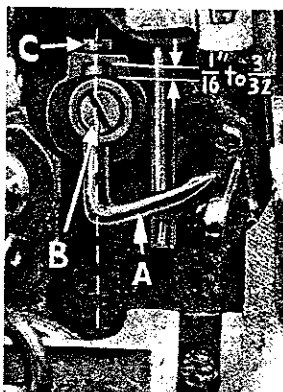

Fig. 8
Insert upper looper (A, Fig. 8) in its holder. Screw (B), holds upper looper in its holder, and permits it to be pushed in or out of turned around its shank. Insert upper looper holder into upper looper shaft, if it is not already in place. Screw (C), on clamp holds the upper looper holder in the shaft. Locate upper looper in its holder so that the shank extends $\frac{1}{16}$ to $\frac{3}{32}$ inch beyond holder (Fig. 8), FS, FT, FU, GD, GL, GT, and JP.
When the upper looper is at the right end of its stroke, upper looper holder should be set to position upper looper shank approximately vertical on Styles 39500 FS, FT, FU, and GT (Fig. 8).